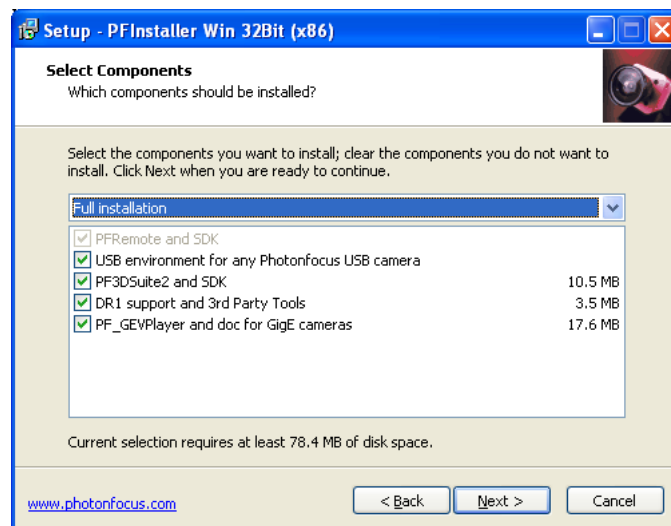

Figure 2.3: PFIInstaller components choice
6. Install the PFInstaller by double-clicking on the file. In the Select Components (see Fig. 2.3) dialog check PF_GEVPlayer and doc for GigE cameras. For DR1 cameras select additionally DR1 support and 3rd Party Tools. For 3D cameras additionally select PF3DSuite2 and SDK.